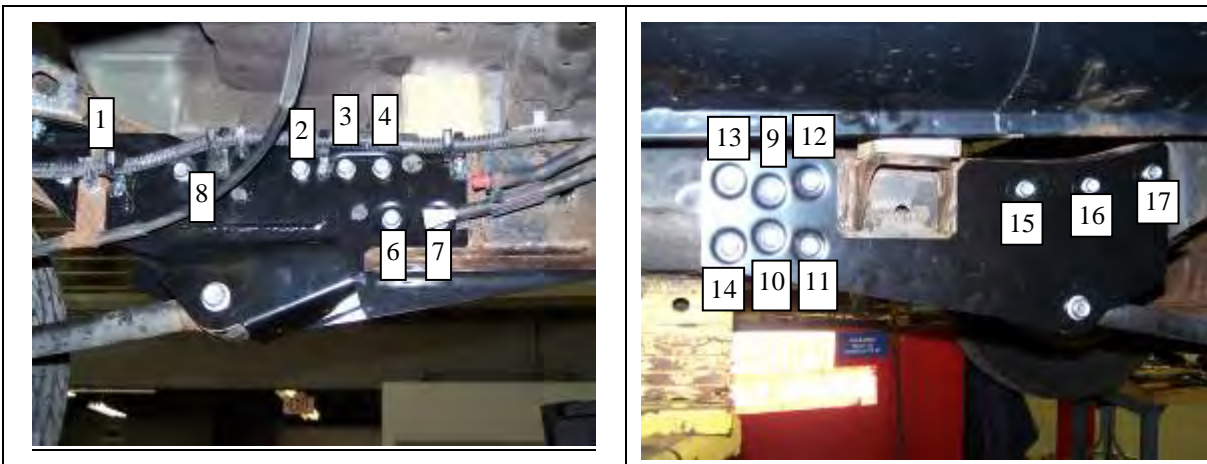

Figure 96
35. Torque bolts according to the sequence and specifications shown in Figure 96.